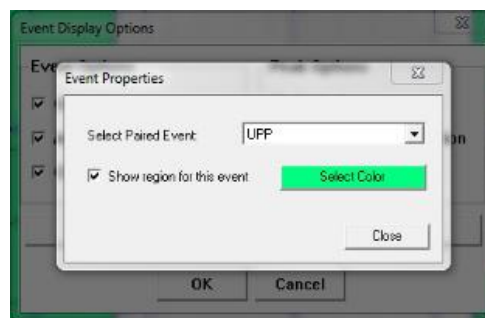

Figure 150: Event Properties – Select Paired Event
- In the **Select Paired Event** dropdown menu, choose the type of test and select **Show region for this event** (Figure 150).